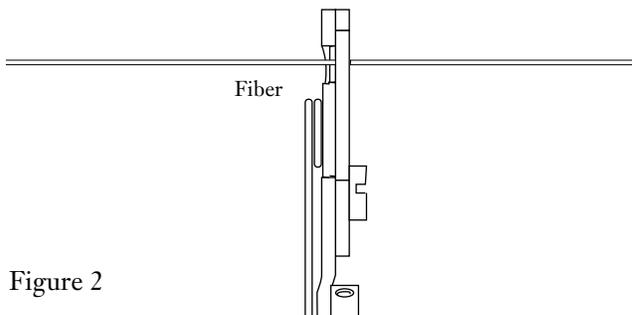

Figure 2
- a) Hold the tool perpendicular to the fiber (Figure 2).